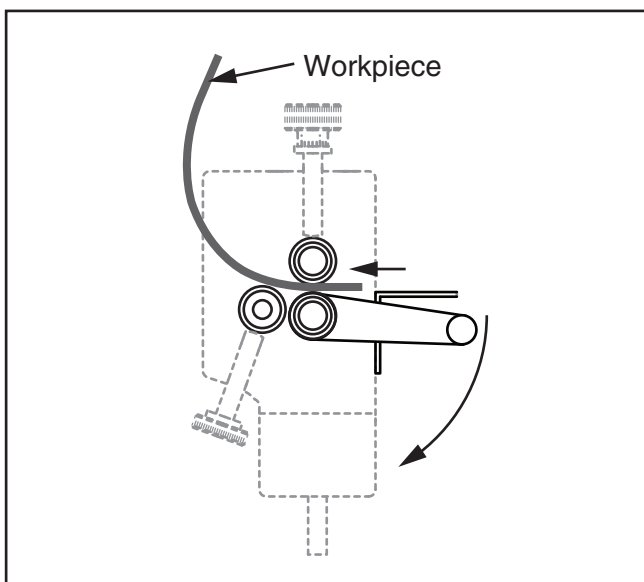

Figure 12. Forming the bend.
- Rotate the hand crank clockwise to feed the workpiece completely through the rollers and produce the bend (see **Figure 12**).